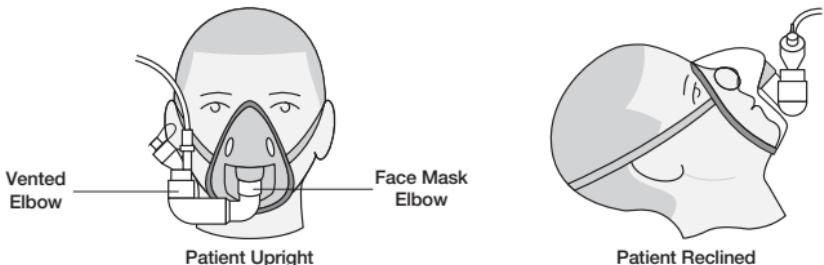
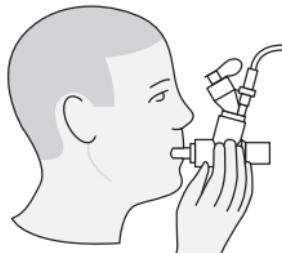
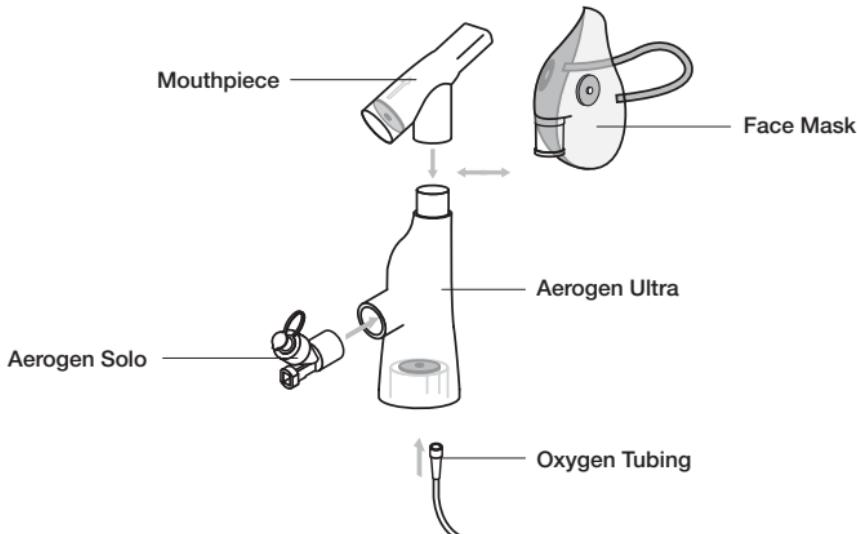

Figure 11. Connecting to a mask
Figure 12. Connecting to a mouthpiece
Figure 13. Assembly of Aerogen Ultra
Note: For use with other accessories, refer to Figure 11, Figure 12 and Figure 13.
2. Rotate the vented elbow to suit the position of the patient (Figure 11).
When using a mouthpiece, connect the nebulizer to the T-piece and then connect the T-piece to the mouthpiece by pushing the parts firmly together as shown in Figure 12.
Warning: To ensure correct nebulization, maintain the nebulizer in a vertical orientation (Figure 11 & Figure 12).
1. Insert Aerogen Solo nebulizer firmly into Aerogen Ultra in orientation shown in Figure 11.